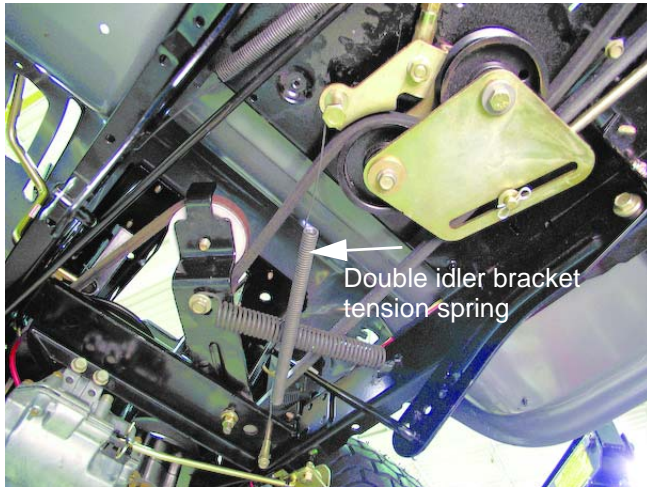

Figure 5.38
2. Remove the tension spring connected between the idler bracket and the spacer screw mounted to the transmission torque bracket. See Figure 5.38.